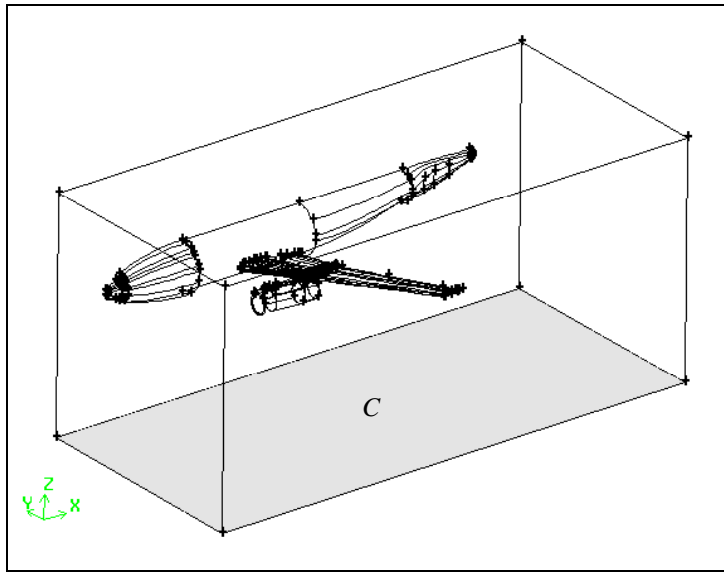

Figure 14-9: Face specified for the face-stitch operation
- b) Select one face of the flow volume—for example, the bottom face (C) shown in Figure 14-9.